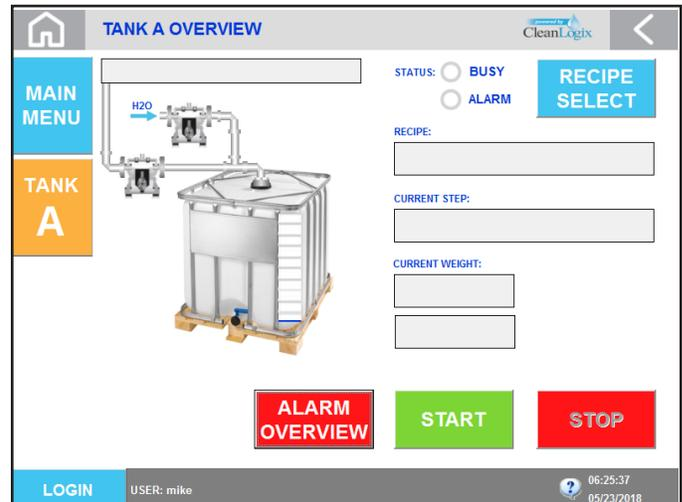

Figure 13.1: Overview Screen
2. The name of the recipe “on deck” will appear under the word Recipe on the overview page [Figure 13.1].